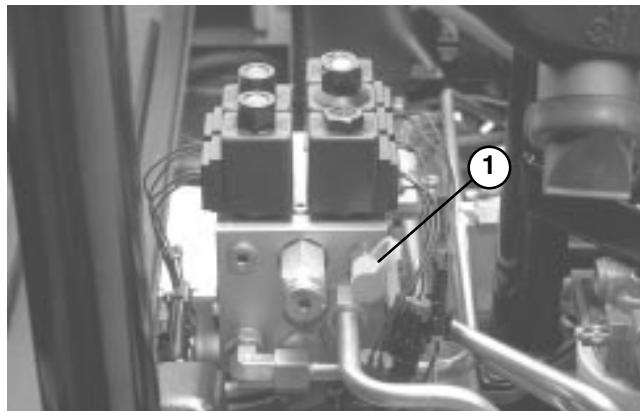

Figure 54
2. Test Port "B" (Fig. 54) is used to assist in trouble shooting the hydraulic circuit for the rear cutting units.